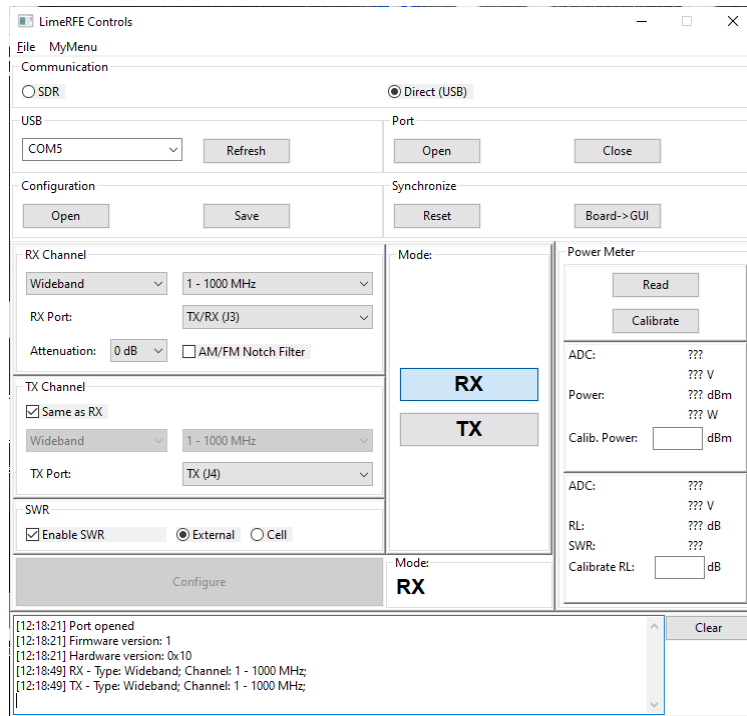

Figure 5: LimeRFE Controls window with enabled SWR panel and enabled SWR
- SWR subsystem of the LimeRFE is disabled by default. It can be enabled in the SWR panel. In the same panel it is possible to choose between the source of the SWR signals. SWR subsystem provides the means of measuring RF signal power. These signals can be direct and reflected power signals provided by an external directional coupler and connected to the J18 and J17 respectively. In that case the source of the SWR signals is denoted as *External*. In this case both direct power and reflection coefficient are calculated. Another source for power meter is denoted as *Cellular*. Here, the signal proportional to the transmitted RF signal for cellular channels is internally connected to the power meter. In this case only the transmitted power is available. Measurement results are available within the *Power Meter* panel which becomes available after pushing the *Configure* button, in case the SWR is enabled (Figure 5).